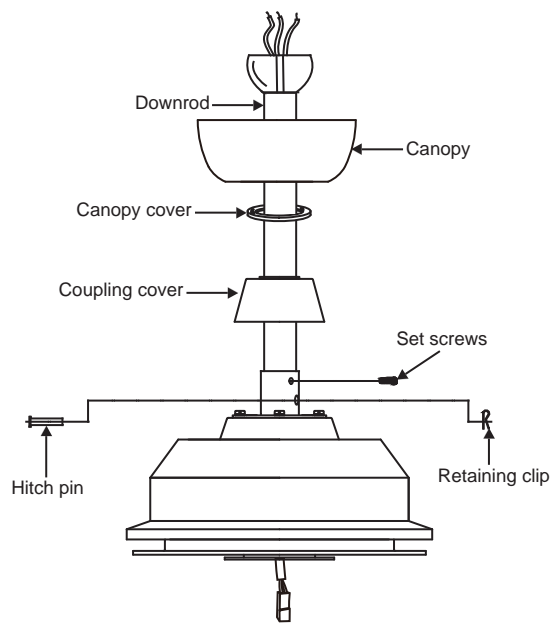

Fig. 9
Step 8. Slip the coupling cover, secure ring, canopy cover and canopy onto the downrod. (Fig. 9)
Thread the hanger ball onto the downrod, insert the cross pin through the downrod and tighten. Now tighten the set screw. (Fig. 9)